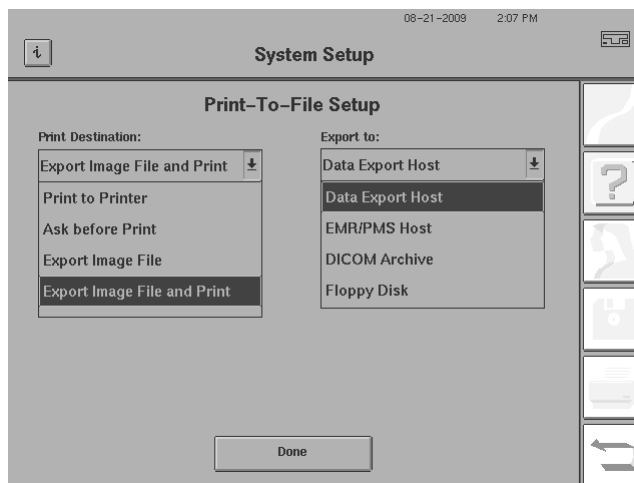

Figure 14.43 Print Destination: and Export to: Drop-Down Buttons
- 3 Select the PRINT DESTINATION: drop-down box (see Figure 14.43). Your available selections in this drop-down box are: